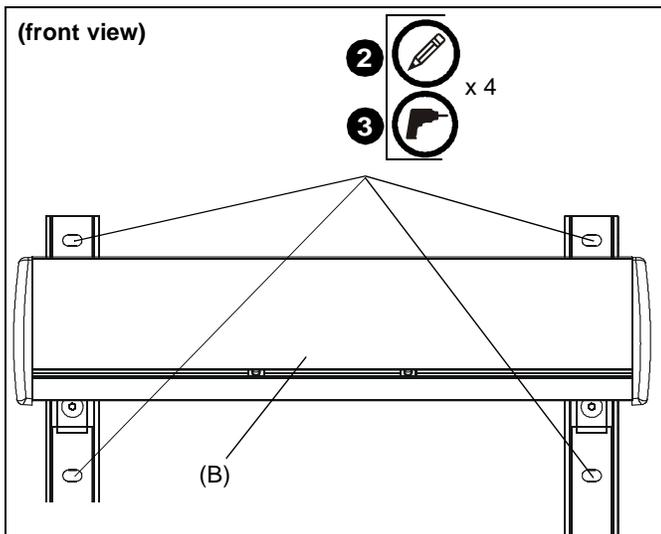

Figure 1
2. Using mounting bracket (B) as a template, mark four holes at the holes in bracket. (See Figure 1)
3. Drill four 3/8" x 3-3/8" deep holes at marked locations in wall. (See Figure 1)